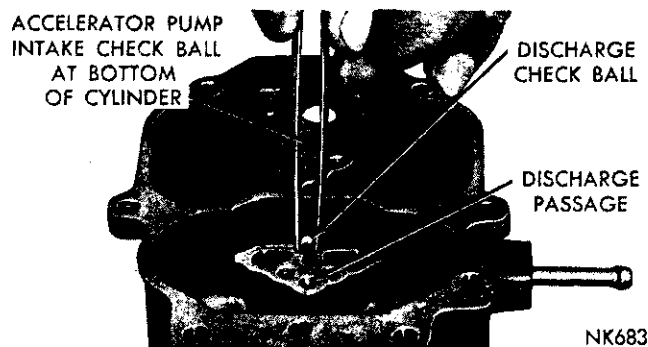

Fig. 9—Installing Accelerator Pump Discharge Check Ball
(1) Invert main body and place insulator in position, then place throttle body on main body and align. Install screws and tighten securely.
(2) Install accelerator pump discharge check ball (5/32 inch diameter) in discharge passage, (Fig. 9). Drop accelerator pump intake check ball (3/16 inch diameter) into bottom of the pump cylinder.